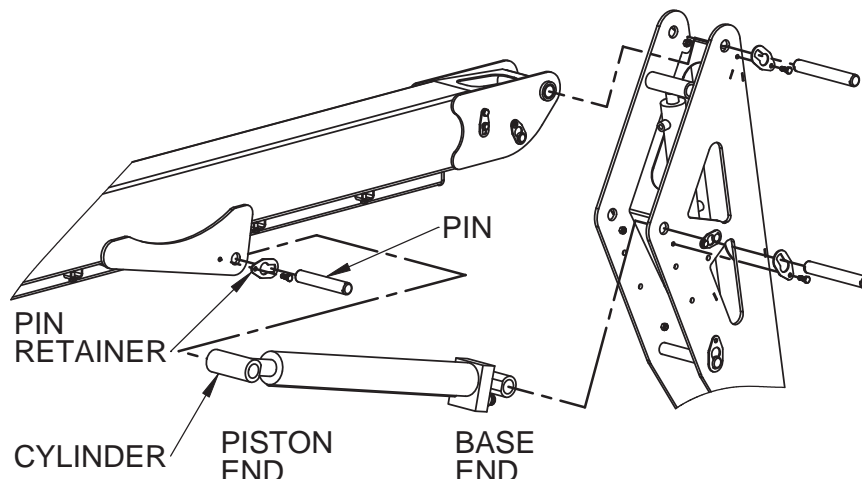

**Figure 5-3. Location of Manual Lowering Valves for Lift Cylinder Replacement**
55XA / HLA 19 PX Aerial Work Platforms have three (3) lift cylinders, use the following procedure to remove and replace faulty or damaged hydraulic cylinders. Refer to Figure 5-3 for the location of these cylinders.